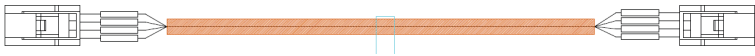

Figure-15 Battery module communication cable diagram (picture is for reference only)
1) Take out the matching battery module communication line as shown in Figure-15 and eparate the communication line according to the battery module communication line label.